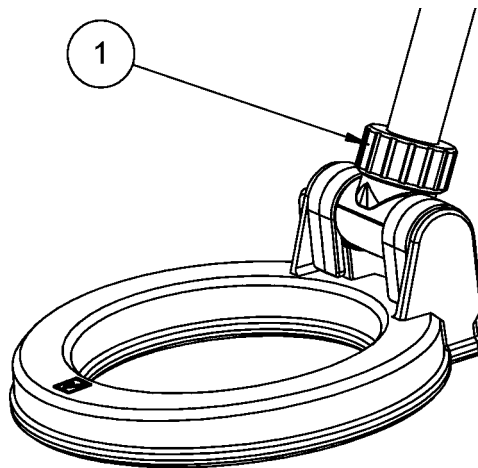

Fig. 5.3.1: Changing the search coil: (1) Plug connector with union nut
1. Open the union nut of the plug connection and remove the search coil, see fig. 5.3.1.